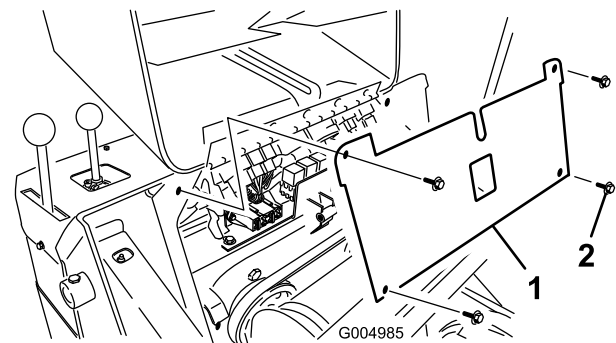

Figure 41
4. Remove the 4 screws securing the fuse panel and then pull the panel out and up to remove it (Figure 41).